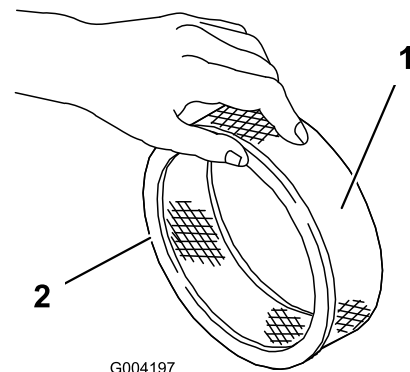

Figure 42
5. Inspect the paper filter for tears, an oily film, and damage to the rubber seal (Figure 42).
1. Carefully slide the foam pre-filter onto the paper filter (Figure 42).